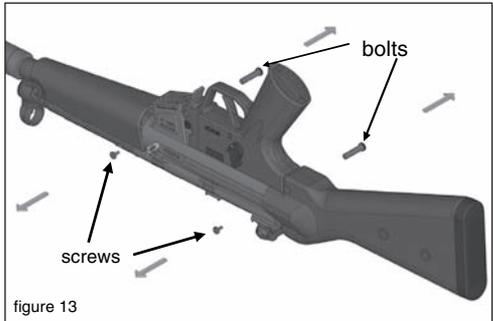

figure 13
2. Turn the gun upside down (*figure 13*)
3. Remove the screws of the stock and of the frame. (*figure 13*)